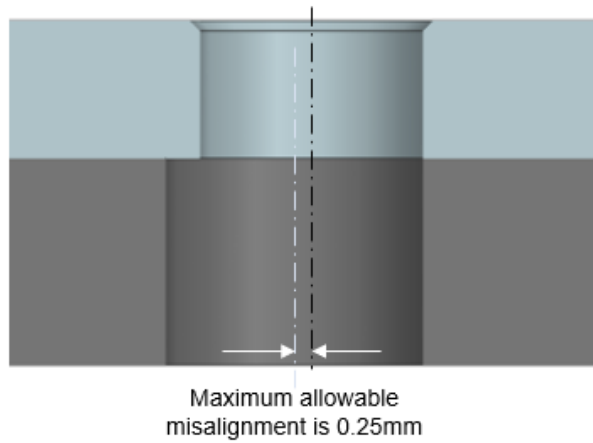

Figure 5.1.2
- b. Maximum misalignment of Busbar Hole and Fixture Hole should be no more than 0.25mm to avoid any stubbing during press. Refer to below figure 5.1.2.